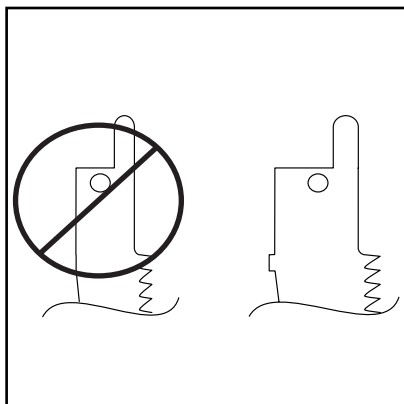

Fig 3. Always use correct shank profile.
2. Use the 4mm Allen® Wrench supplied to loosen the cap screw located in the slot on the right hand side of the saw. While it is not required to remove the screw, it does need to be turned 3 or four times to allow blades to be exchanged. Please note the locating pin under the jaw clamp. (**Figure 3**).